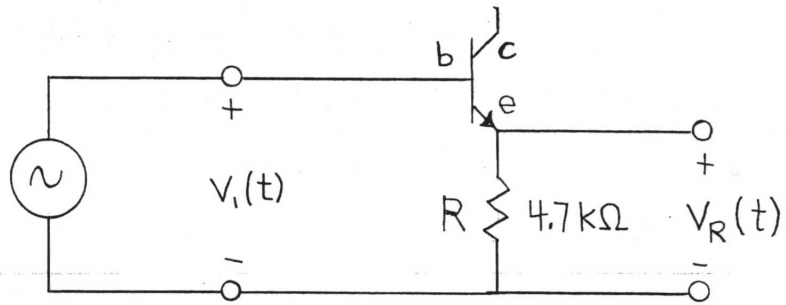

Figure 1: Circuit to rectify a voltage.
1. Set your function generator to produce a sinewave of 400 Hz frequency and 1.5 V amplitude and attach it to the circuit of Figure 1. (I recommend using a 10–20 k $\Omega$  resistor in place of the 4.7 k $\Omega$  shown in the circuit diagram). Sketch (or photograph)  $V_1(t)$  and  $V_R(t)$  from the oscilloscope; use the same voltage scales and the same zero position for both  $V_1(t)$  and  $V_R(t)$ .